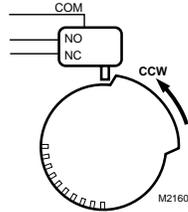

Fig. 2. Switching configuration for counterclockwise rotation (top view).
1. Determine desired switching action (if switch is to energize during clockwise  or counterclockwise  rotation). With switch cam as shown in Fig. 2, the normally closed contact opens during counterclockwise  rotation and the normally open switch closes.
5. With a screwdriver, move cam inside switch assembly to the appropriate position. Remember, the direction of travel of the cam for switching purposes (see Fig. 2 and 3). Monitor the switch closure with an ohmmeter for a continuity check. See Table 1.